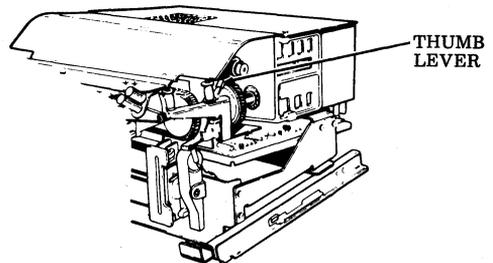

Fig. 16
- (a) Depress thumb lever on right ribbon guide bracket allowing bracket to spring open (Fig. 16).